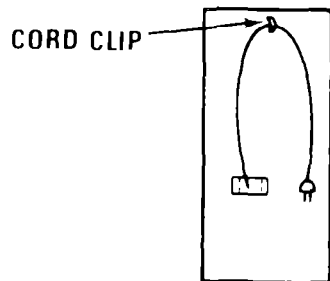

FIGURE 11
3. Be sure the cord clip on the cord is attached to the clip to the rear of the cabinet as shown in Figure 11